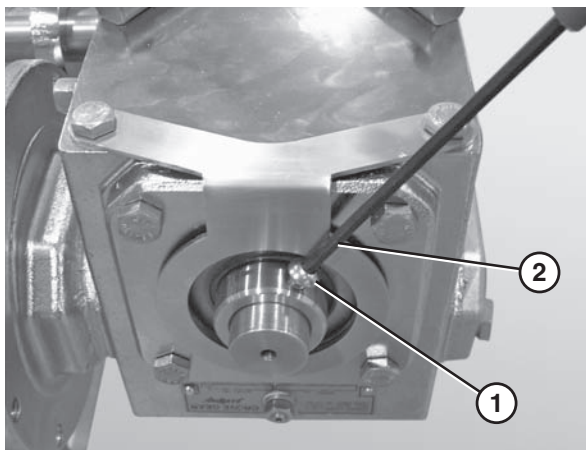

Figure 7
5. Tighten the drive spindle fasteners (**Figure 7, item 1**) located on the inside and outside of the gearmotor using a hex wrench (**Figure 7, item 2**).